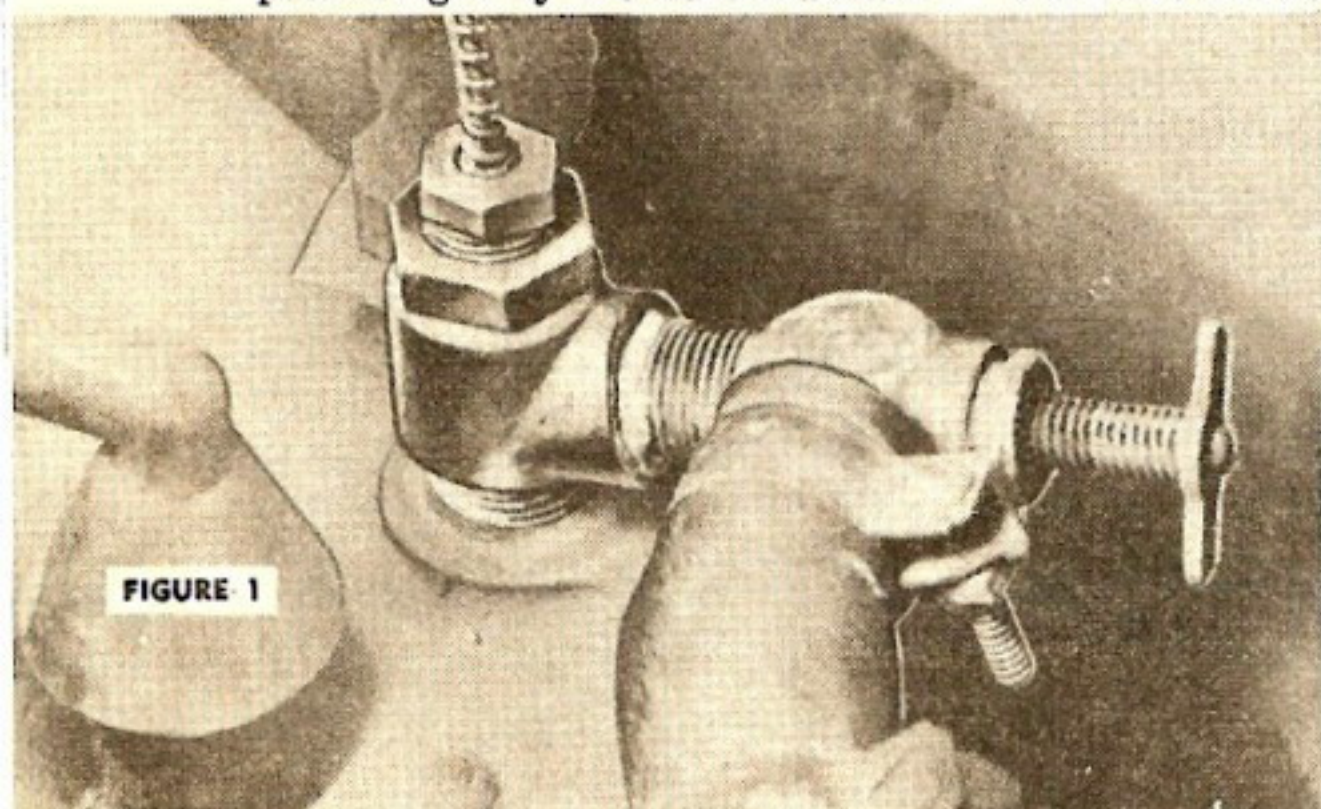
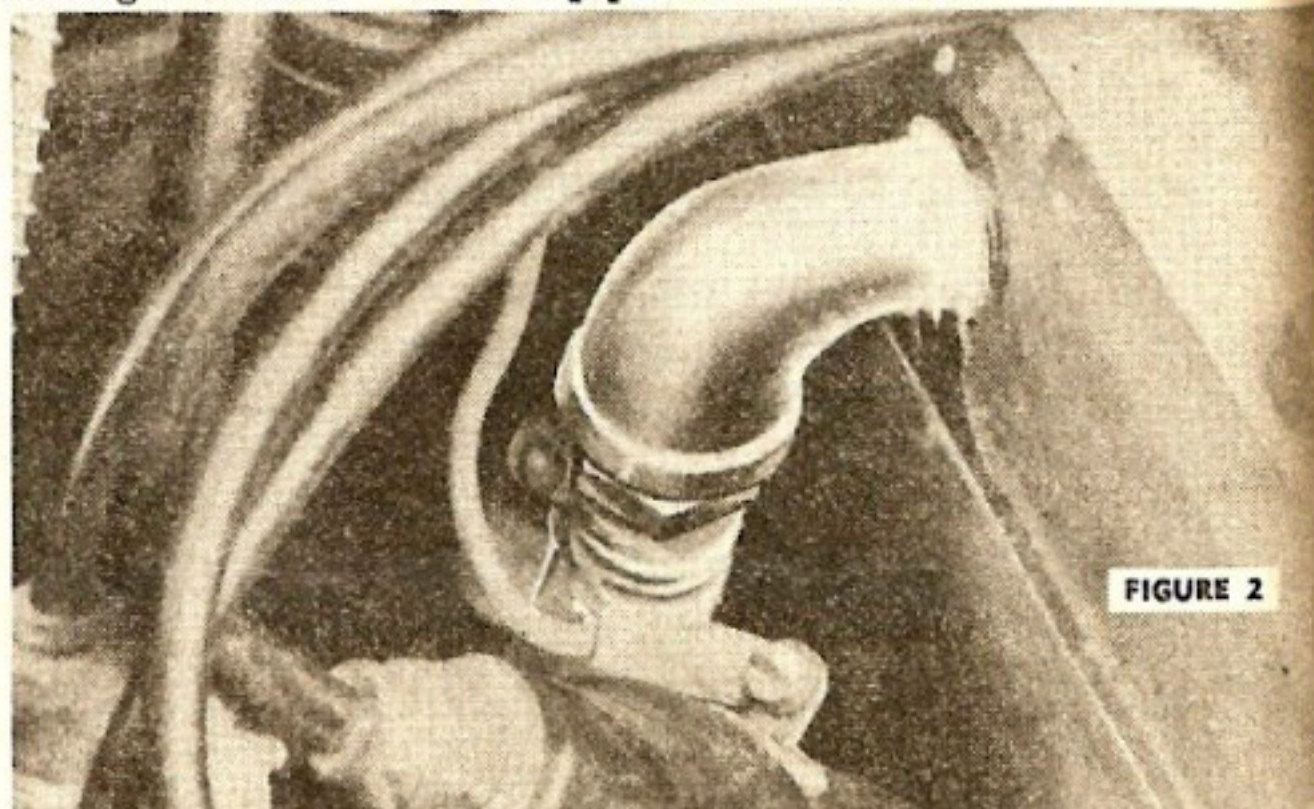

FIGURE 1
FIGURE 2
(The pipe from the stove is now hanging free for a minute.) (2) Reinstall the connector tee and heat indicator bulb in the hole in the upper rear of the cylinder head (Fig. 1). In order to do this, you have to remove the cylinder head and drill and tap the hole for a ½" pipe thread. Reconnect the pipe from the crew compartment heater to the tee as shown in Fig. 1. If your jeep doesn't have a crew compartment heater, you can block off the hole in the side of the connector tee with a ⅞" pipe plug. (3) Now you've got to reconnect the pipe from the stove into its original hole in the side of the cylinder head. For this you'll need a 90° street elbow (malleable iron) ½", and a ½" x ¼" bushing. Install as shown in Fig. 2 using the original nipple on the pipe from the stove.